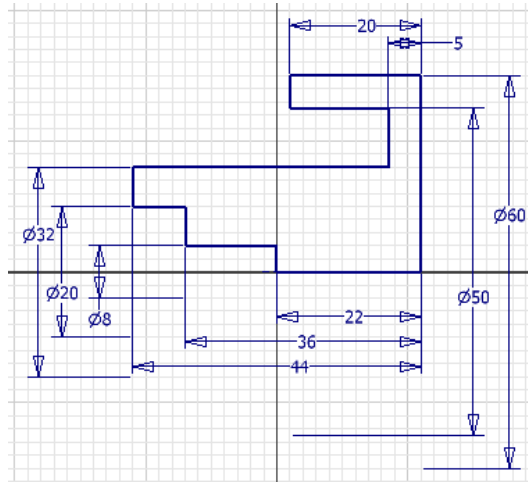

Figure 3-55 Fully constrained sketch for Tutorial 2
- d. Apply **Coincident Constraint** between the origin and lower left vertex of the sketch to make it a fully constrained sketch, refer to Figure 3-55.
16. Choose the **Zoom All** tool from the **Navigation Bar > Zoom** flyout to fit the sketch into the drawing window. The fully constrained sketch after adding all dimensions is shown in Figure 3-55.